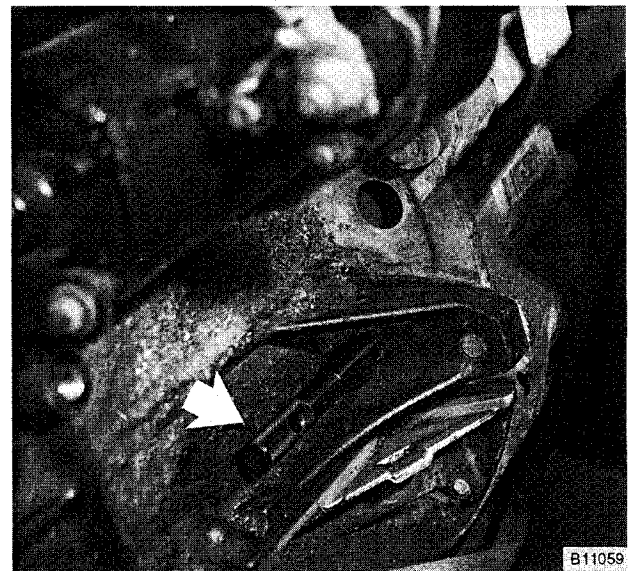

Fig. 19. BMW special tool 11 2 300 inserted through bellhousing hole and into flywheel (arrow) to lock crankshaft at TDC.
- Carefully rotate crankshaft in direction of engine rotation and lock it at TDC by inserting BMW special tool no. 11 2 300 through transmission bellhousing. See Fig. 19.